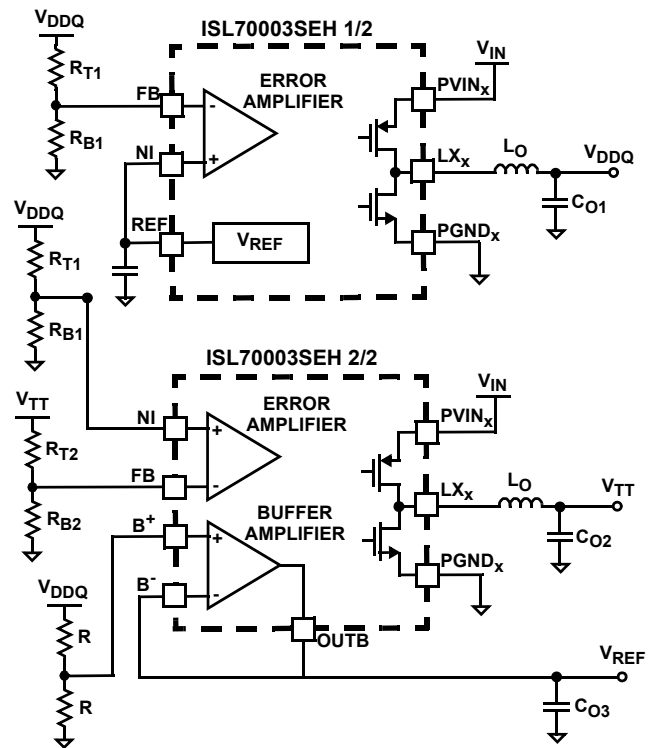

FIGURE 44. SIMPLIFIED DDR APPLICATION SCHEMATIC
In the DDR application presented in Figure 44, an independent architecture is implemented to generate the voltages needed for DDR memory applications. Consequently, both V_{DDQ} and V_{TT} are derived independently from the main power source. The first regulator supplies the 2.5V for the V_{DDQ} voltage. The output voltage is set by external dividers R_{T1} and R_{B1} . The second regulator generates the V_{TT} rail typically = $V_{DDQ}/2$. The resistor divider network R_{T2} and R_{B2} are used to set the output voltage to 1.25V. The V_{DDQ} rail has an additional voltage divider network consisting of R_{T1} and R_{B1} , the midpoint is connected to the noninverting input pin of the V_{TT} regulator's error amplifier (NI), effectively providing a tracking function for the V_{TT} voltage.